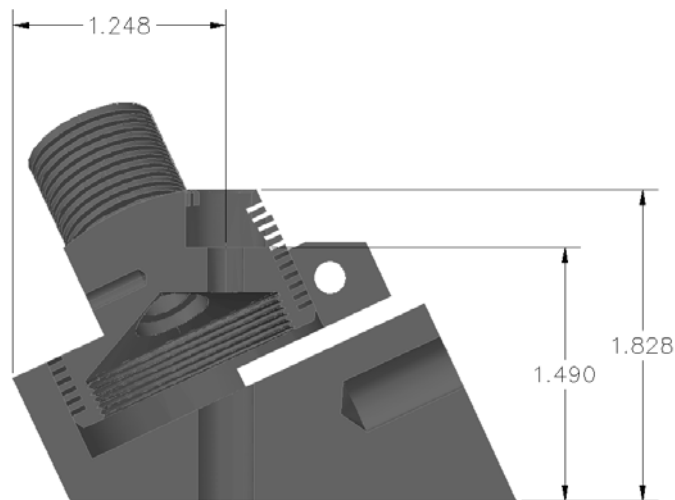

Figure 3
1. Using CH2 with a 3/16" spacer, mount the cylinder head in the mill and locate the sparkplug hole as shown in Figure 3.